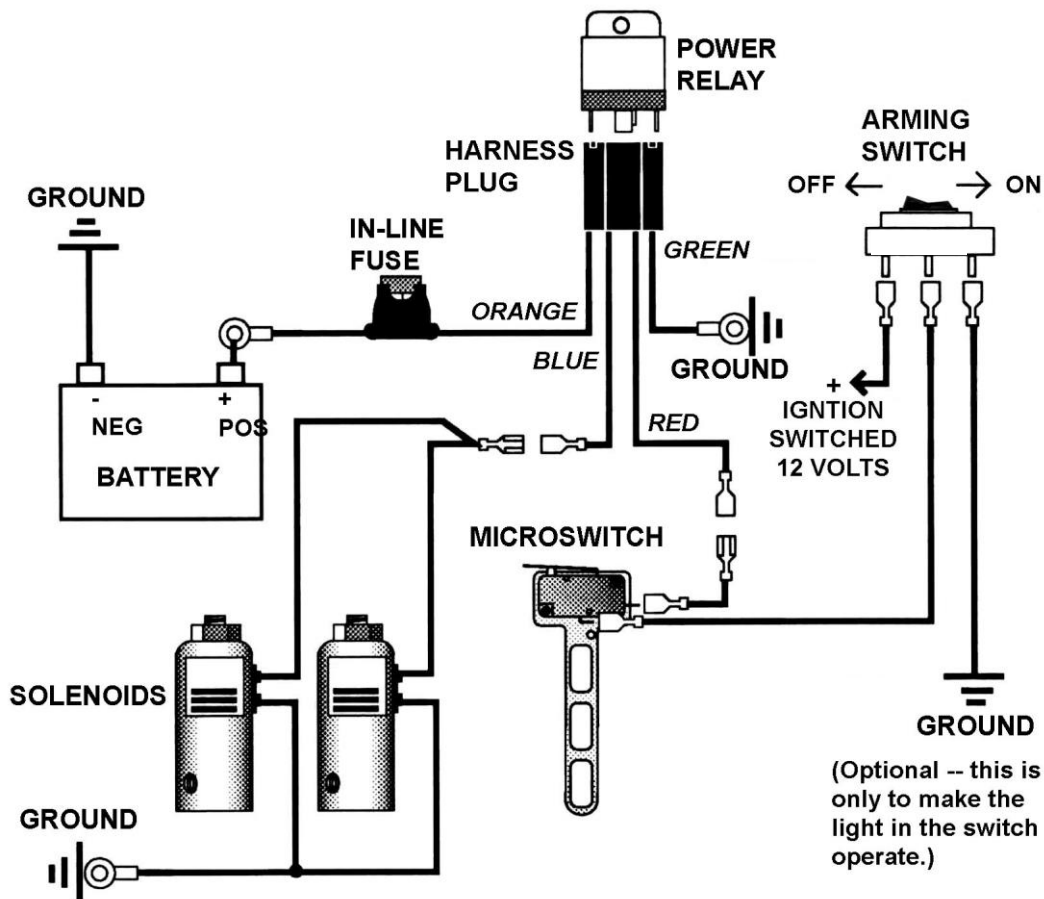

Figure 9 Electric Wiring Schematic
Refer to Figure 9 and the procedures in this section for electrical system installation.
8. Push the throttle wide open while the engine is off. Each solenoid should make a clicking noise if it is cycling correctly. If no noise is heard, check all the wiring connections and the wiring schematic in Figure 9.